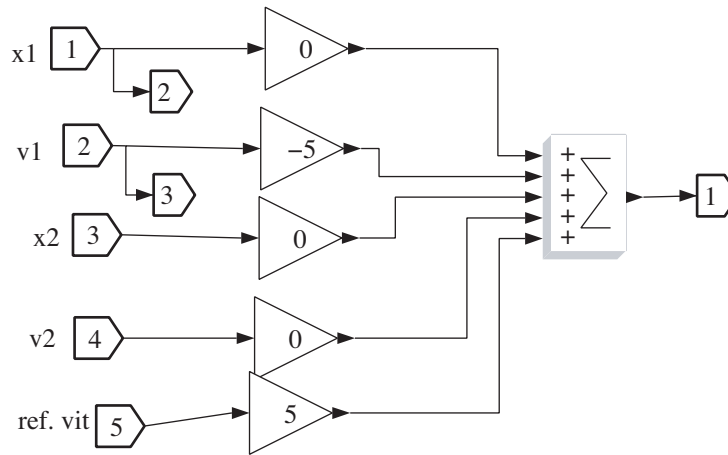
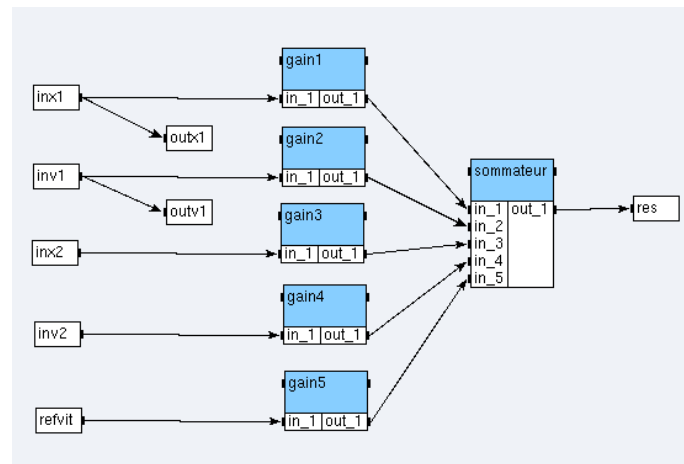

Figure 8.1: Scicos controller of the first car
Figure 8.2: SynDEX controller of the first car
Our controllers are simple. They are represented in figures 8.1 and 8.3 in Scicos and figures 8.2 and 8.4 in SynDEX:
- finally create both algorithms `controleur1_sup` and `controleur2_sup` (cf. figures 8.2 and 8.4), setting their gain parameters respectively to 0, -5, 0, 0, 5 and 4, 4, -4, -4.